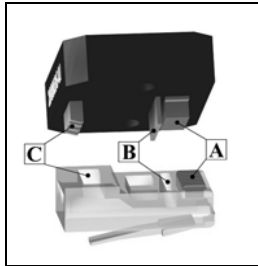

Fig.1.
- ❑ With dies sets **only** microplugs of **appropriate type** must be used. Crimping microplugs of unsuitable type may result with unsatisfactory characteristics of crimped connections and eventually with damaging of the tools and is to be strictly avoided. Prior to crimping, please check the alignment of the microplug to the dies set. Check the alignment (Fig.1) of contact crimp comb with contacts (A) and primary (C) and secondary (B) strain relief (if any).
- ❑ Fig.1. represents unshielded 8P microplug and corresponding part of dies set. Shielded microplugs lack primary (C) and secondary (B) strain relief booth and unshielded CAT5 plugs lack secondary (B) strain relief booth. Choose dies sets correspondingly.